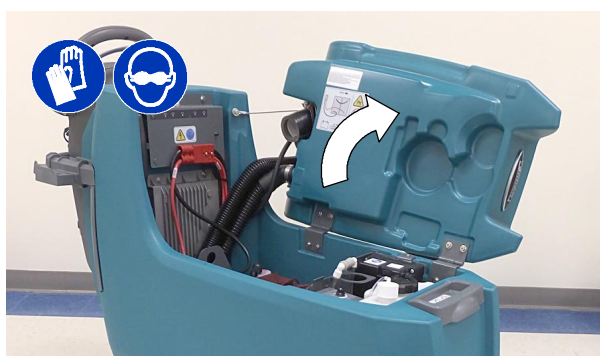

FIG. 1
1. Lift the recovery tank to access the battery compartment (Figure 1).